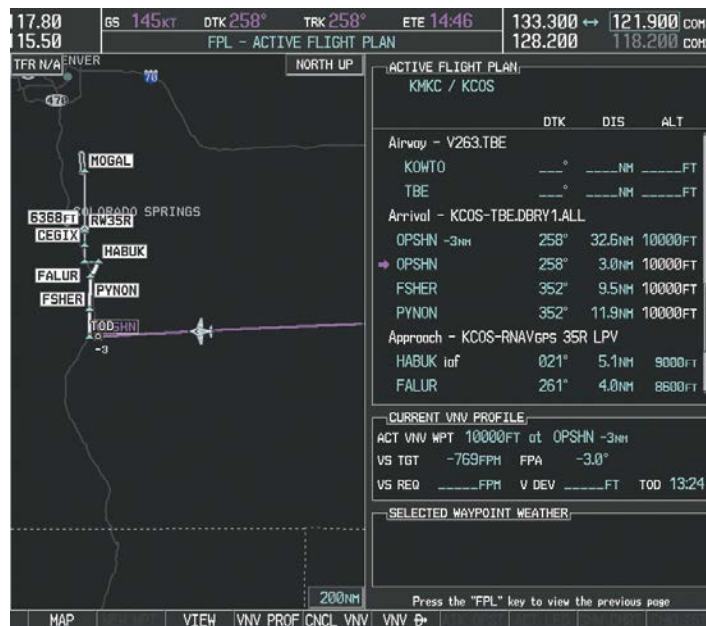

Figure 5-137 Adjusting the Descent
- a) Press the **VNV PROF** Softkey to place the cursor in the target vertical speed field (VS TGT) as shown in Figure 5-137.